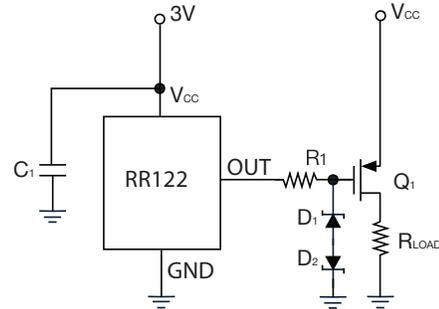

Fig. 1a: Normally-Open design with P-ch MOSFET
**Normally-ON Operation:** In Fig. 1a, a P-channel MOSFET is used to perform an ON status control. In a normally-open design, (Fig. 1a) a sensor's output is HIGH when no magnetic field is present and the P-channel MOSFET ( $Q_1$ ) won't turn ON; therefore, there is no current flow through  $R_{LOAD}$ . When a magnet approaches and provides sufficient magnetic flux density to the RR12x, the sensor's output will go LOW so the  $V_{gs}$  of  $Q_1$  will be low enough to turn ON the source-drain channel. Therefore, there is a current flow through  $R_{LOAD}$ .